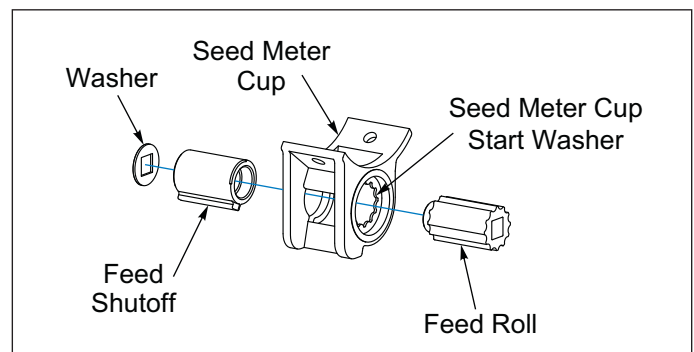

Figure 5-8: Small Seed Meter
3. Individual Seed Meter Adapters with Seed Meter Cup attached or Seed Meter Cups can be adjusted as required. Adjustments can be made by loosening the 1/4-20 x 5/8 Machine Screws that mount the Seed Meter Adapter to the Seed Box and the 1/4-20 Nut that attaches the Seed Meter Support to the Seed Meter Cup. Adjust the affected Seed Meter Adapter(s) so that the Feed Cut-Off Meter is against the Meter Cup Star Washer (closed). If unable to achieve complete Feed Cut-Off closure against the Star Washer, adjust the Seed Meter Cup that is attached to the Seed Meter Adapter by loosening the 1/4-20 x 1 Machine Screws. Be sure the Feed Roll Meter stays engaged in the Meter Cup Star Washer. **See Figure 5-8.** After adjustments have been made, seal the Seed Meter Adapter(s) to the Seed Box with clear Silicone.